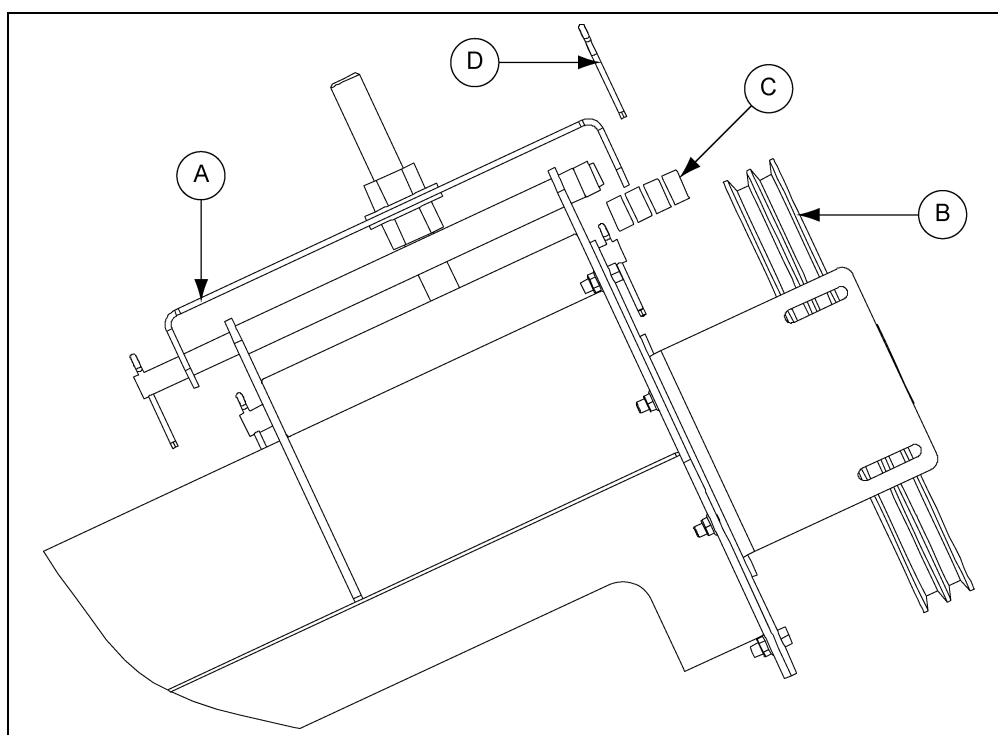

Figure 4J
1. Attach the motor to the motor mount plate (A) using appropriate bolts, lock washers and hex nuts. *(See Chart below.)*
2. Install pulley onto motor shaft making sure that it is aligned with the flight pulley (B). It may be necessary to move spacers (C) to gain shaft alignment. *(See Figure 4J.)*